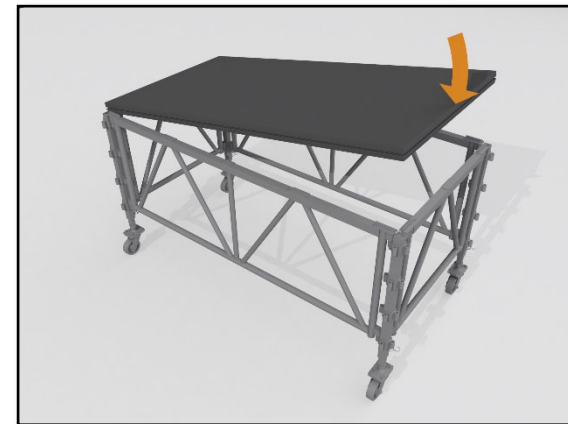

Fig. 21 – Fitting of Deck
9.1.6.4 Engage one corner of the deck first, the other three corners then align due to the profile of the deck extrusion. If not rotate the opposing Node Post to ensure the gates are at 90 Deg. to each other and the Node Post. *Fig. 21 – Fitting of Deck*